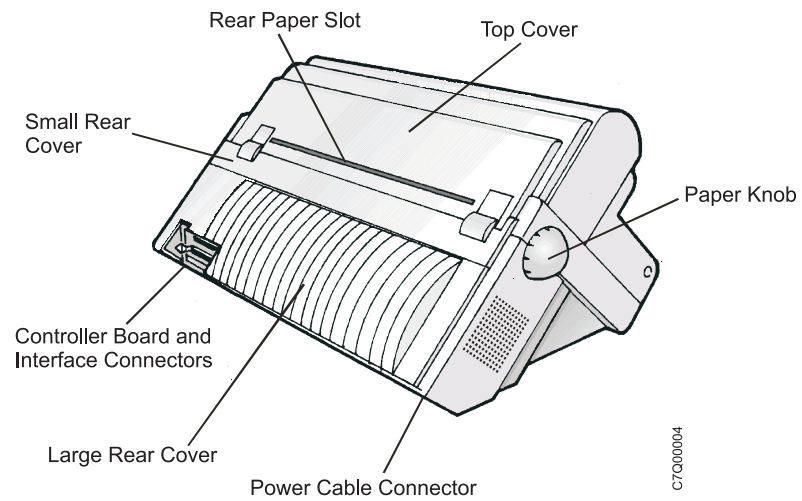

Figure 3. Covers, Front and Rear View
5. Check the Small Rear Cover with Interlock Board and ensure it is properly installed. See Figure 3 for the location of the Small Rear Cover and Interlocks for information about both of the cover interlocks.